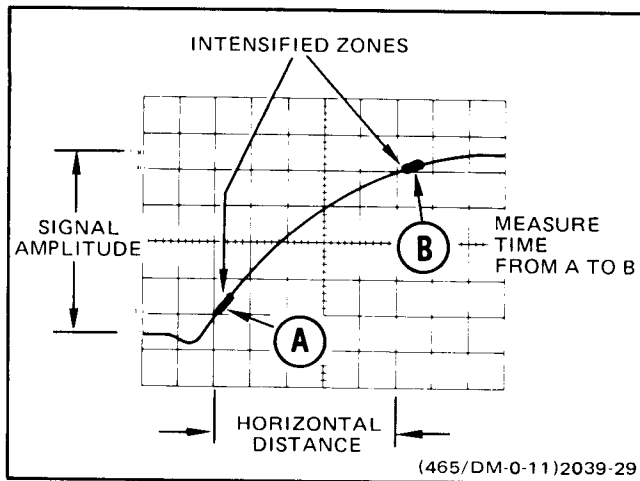

Figure 45. Rise time, differential time method.
6. Rotate the DELAY TIME POSITION control to move the start of the intensified zone (left-hand edge) until it just touches the intersection of the signal and the 10% graticule line (see Figure 45, point A).
8. Rotate the DELAY TIME POSITION control to move the start of the intensified zone (left-hand edge) until it just touches the intersection of the signal and the 90% graticule line (see Figure 45, point B).
3. Vertically position the trace so that the zero reference of the waveform touches the 0% graticule line and the top of the waveform touches the 100% graticule line (see Figure 45).
waveform intersects the third vertical graticule line (see Figure 45).